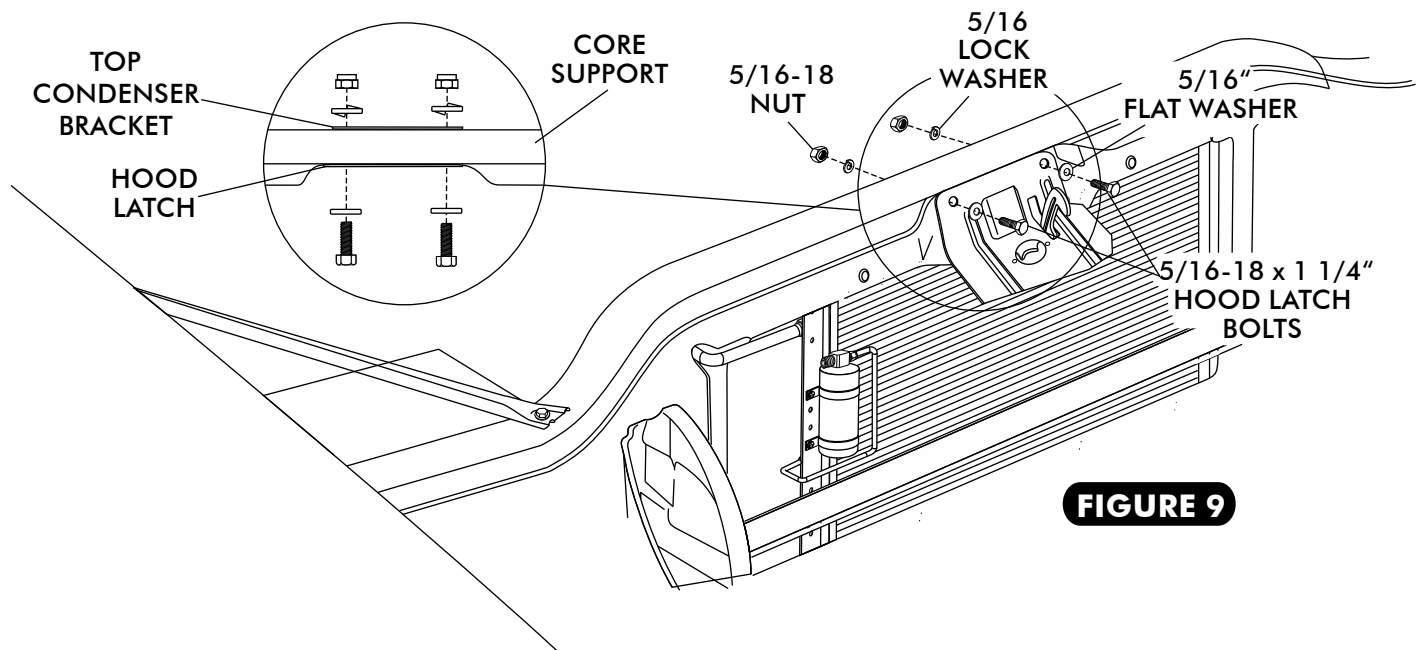

FIGURE 9
- NOTE: THE TOP MOUNTING BRACKET GOES ON THE BACKSIDE OF THE CORE SUPPORT. INSTALL USING (2) 5/16-18 x 1 1/4" HEX BOLT, FLAT WASHER, LOCK WASHER, AND 5/16 HEX NUT. SEE FIGURE 9 BELOW.